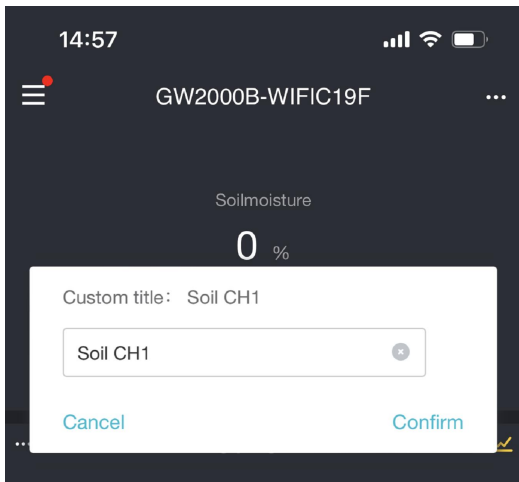
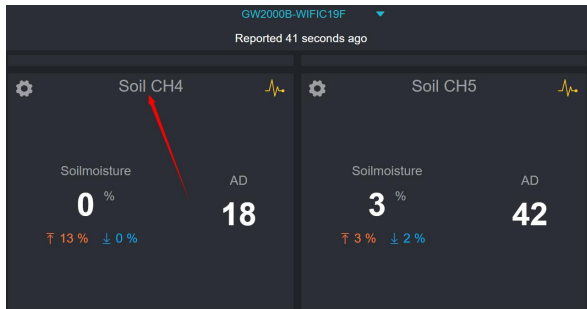
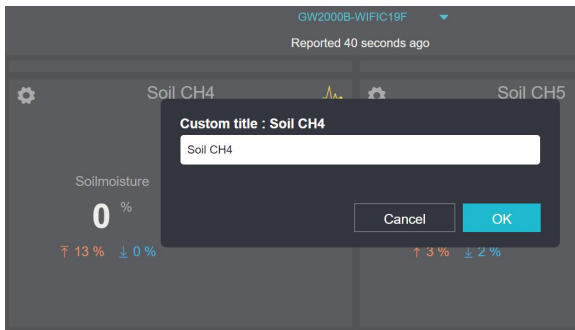

Figure 20
Figure 21
Figure 22
- Edit the channel name on the pop-up and finally click Confirm, like the Figure 20.
- Find your sensor's channel and directly click the channel title, for example, click the 'Soil CH4' like the Figure 21.
- Edit the channel name on the pop-up and click 'OK' like the Figure 22.
- The channel's names could only be edited on the Ecowitt APP or website (ecowitt.net). For example, when you edit the channels' names on Ecowitt app, please refer the Figure 18~ Figure 19; when you edit the channels' names on ecowitt.net, please refer the Figure 21~ Figure 22.
you edit the channels' names on Ecowitt app, please refer the Figure 19~ Figure 20; when you edit the channels' names on ecowitt.net, please refer the Figure 21~ Figure 22.